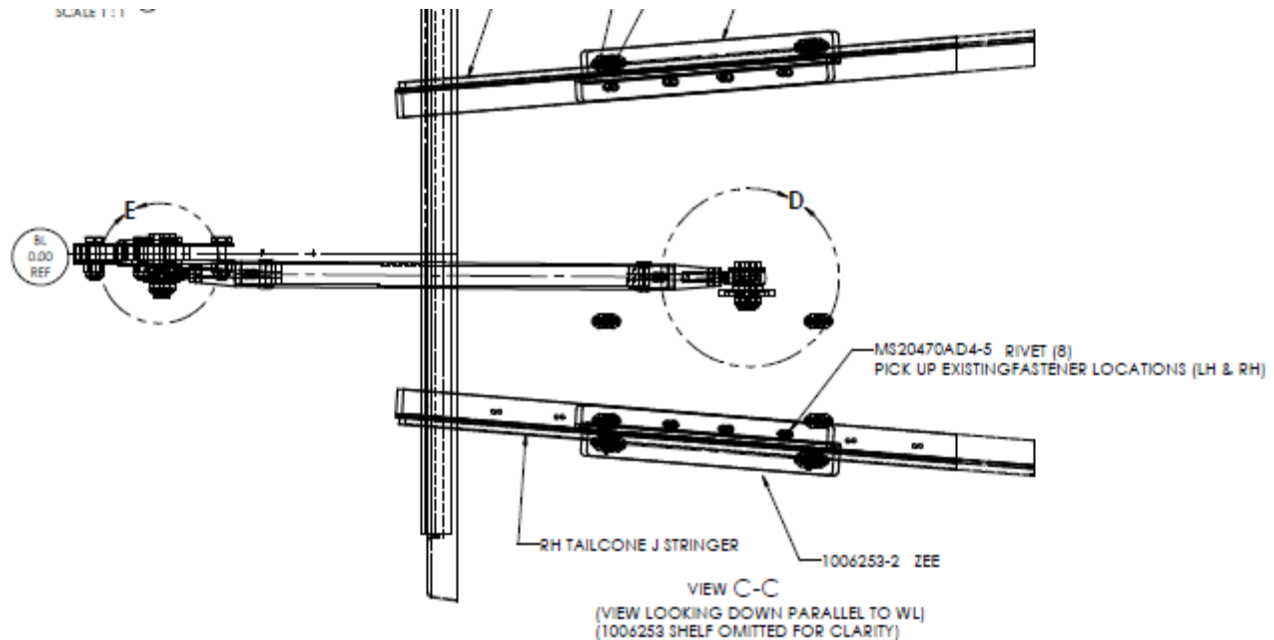

FIGURE 3-8 ZEE ANGLE LAYOUT
5. Position the Pitch Servo Tray Assembly between the left hand and right-hand stringers and slide the assembly aft until the ZEE Angle vertical inner faces are coincident (snug) with the stringers as depicted in Figure 3-8 & 3-9.
8. Remove a minimum of four (4) rivets between the marks on the LH and RH belly skin stringers as depicted in View C-C of Figure 3-8.